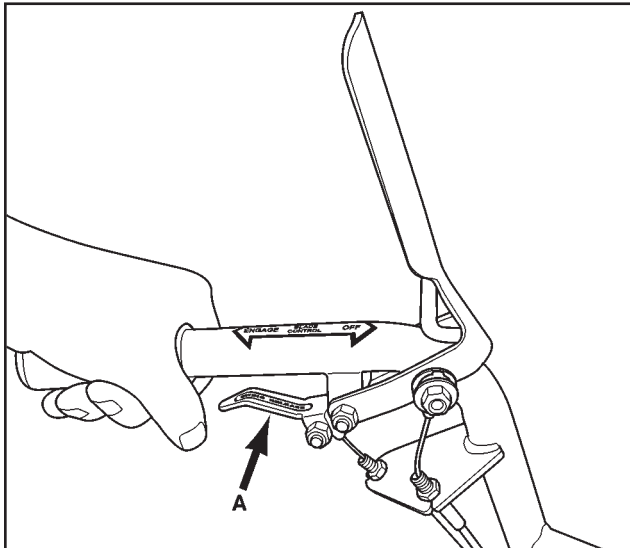

FIGURE 20 Swing Control Lever Disengaged
The swing control lever is shown at A (See Figure 20).
4. Release the SWING CONTROL LEVER, A, and it will lock the arm in position (See Figure 20). If SWING CONTROL does not lock, rock the handlebars side to side until it locks.